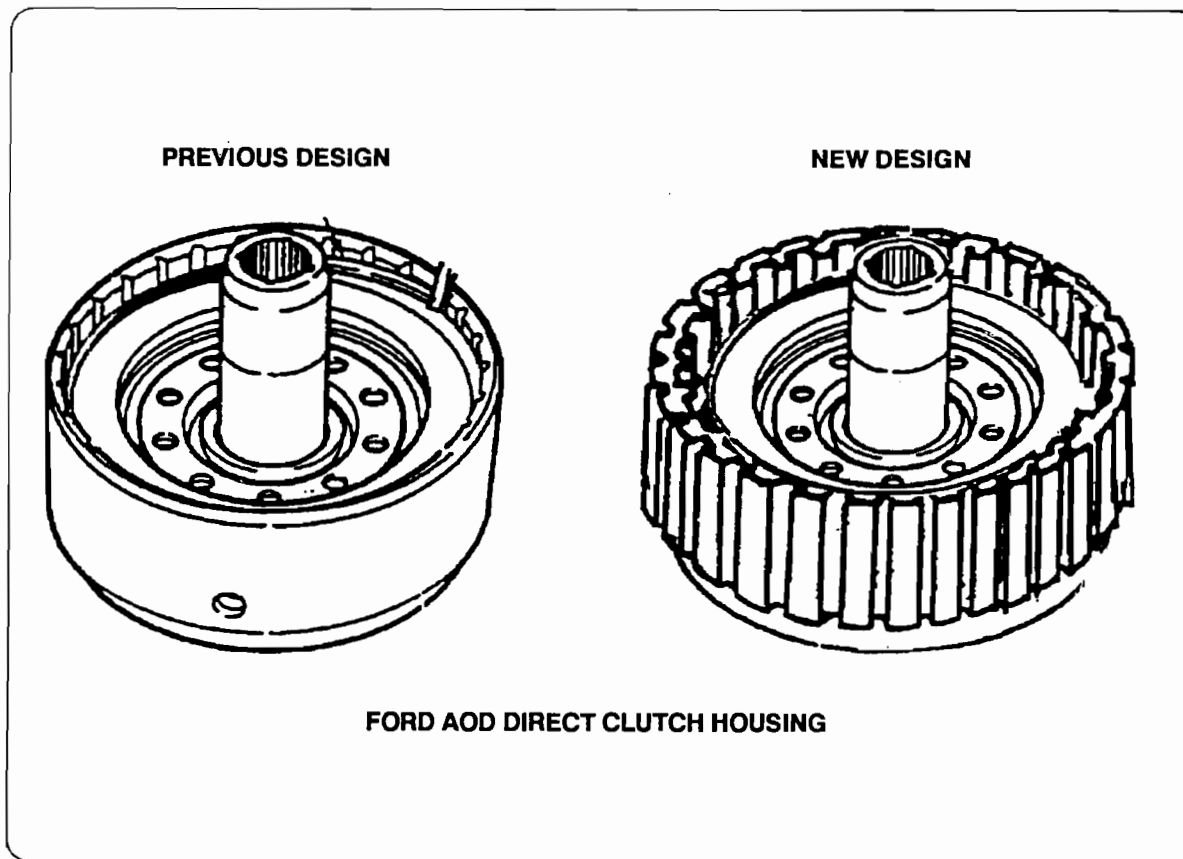

Figure 42
**CAUSE:** In 1989 there was a new design stamped steel direct clutch housing (See Figure 42 ) introduced, that creates the noise.